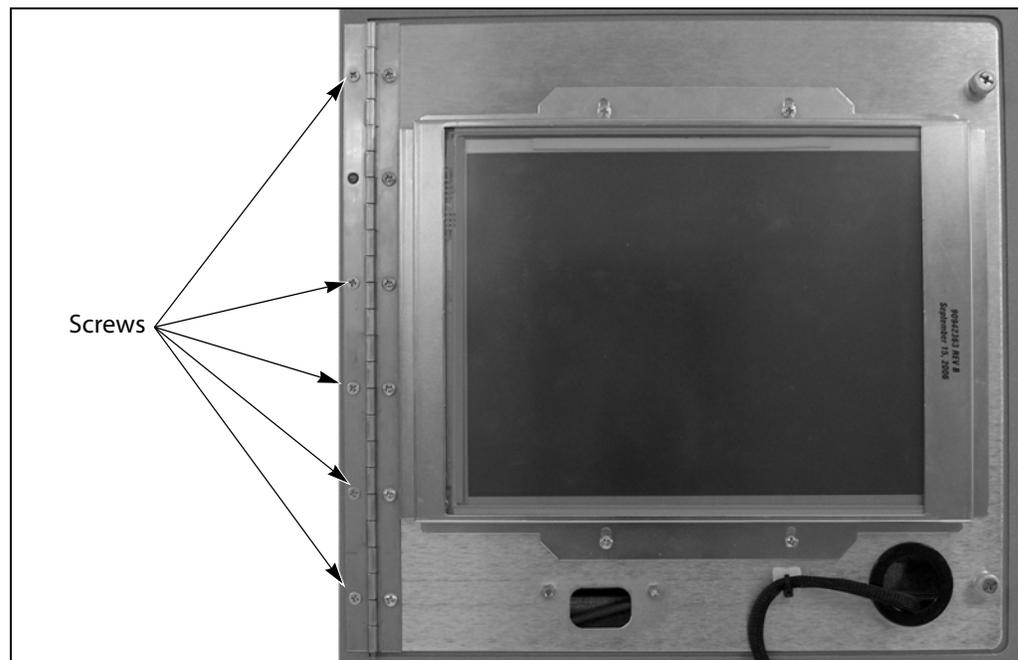

Figure 23 Remove the screws securing the LCD panel hinge to the chassis.
4. Close the LCD panel and tighten the knurled screws to secure it in place (see Figure 23 on page 27).